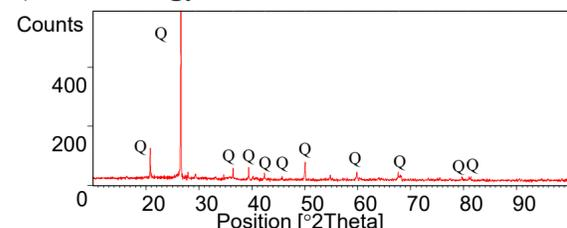

Figure 9. XRD spectrum
- XRD monograph implied that CFBA possesses crystalline silica content mostly available in the form of the quartz (SiO2) and mullite (2SiO2.3Al2O3) (Figure 9).